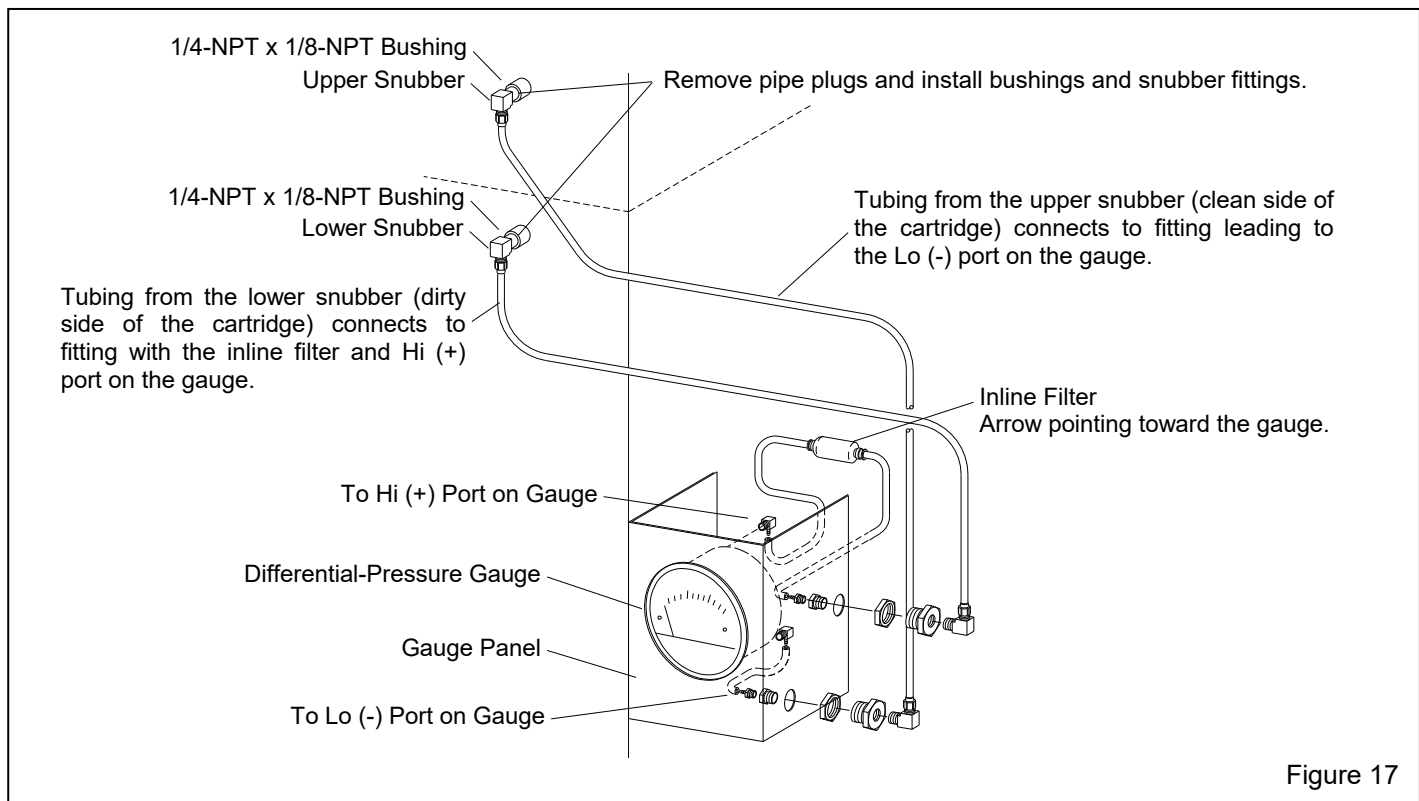

Figure 17
panel to be mounted within ten feet of the dust-collector connections, as shown in Figure 17.
**3.6.4** Remove 1/4" pipe plugs from the dust-collector body, and install 1/4" x 1/8" bushings and snubber fittings as shown in Figure 17.